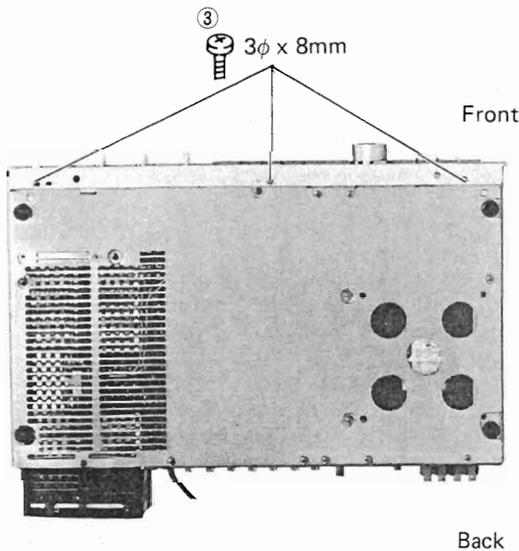

Figure 8
3. Remove three screws ③ (3φ x 8mm) holding front panel and bottom plate, then front panel can be removed as shown in Figure 8.